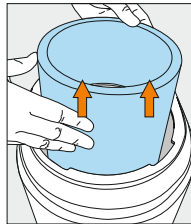
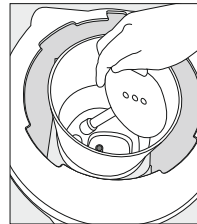

Figure 34
Figure 35
4. Using fingers of both hands loosen and remove the insulation jacket covering the plastic reservoir from the cooler opening (Figure 34). (Note: On Hot & Cold models, after step 4 unscrew the round plastic one piece baffle (Figure 35))